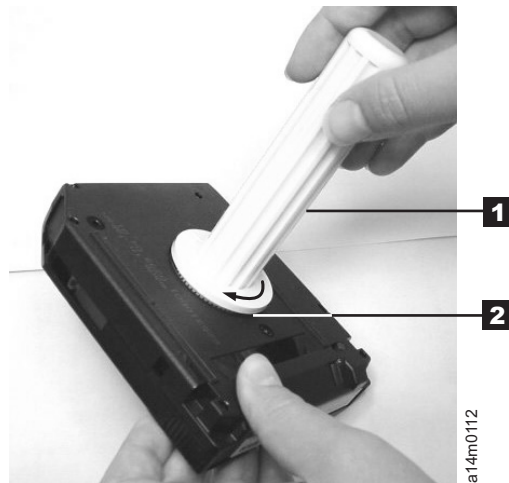

Figure 57. Rewinding the tape into the cartridge
5. To rewind the tape, insert the cartridge manual rewind tool (see **1** in Figure 57) into the cartridge's hub **2** and turn it clockwise until the tape becomes taut.